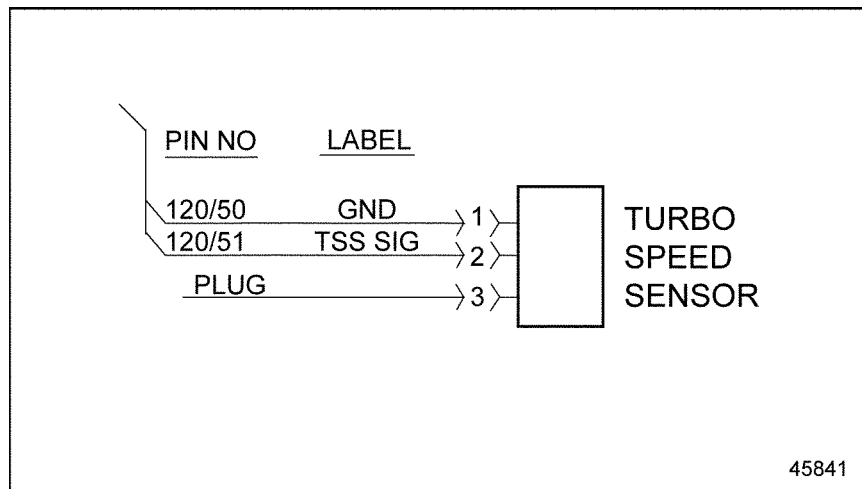

Figure 8-2 Turbo Speed Sensor Terminal and Wire Locations
2. Measure the resistance between the sensor terminals. See Figure 8-2.